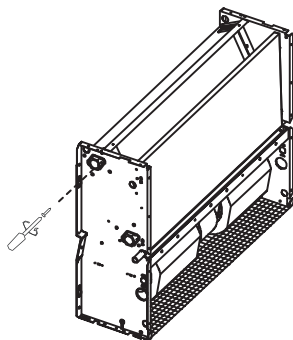

Fig.3-14
■ **Pipeline system has been vacuumed before initial start the equipment (see Fig.3-14)**